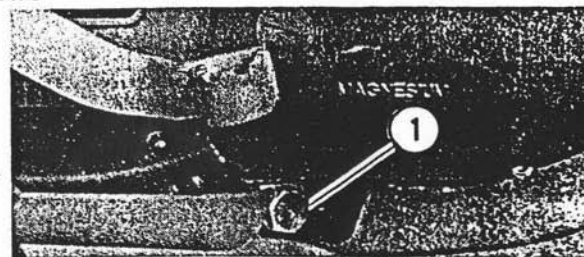

Figure 3-6. Crankcase Drain Plug
8. See Figure 3-6. Using a 17 mm box wrench, remove drain plug (1) and gasket ring from sieve cover at bottom of crankcase and allow oil to drain into a suitable container. Discard gasket ring.
1. See Figure 3-6. Using a **17 mm box wrench** (not included in tool kit), install drain plug (1) into cover on right side of crankcase.